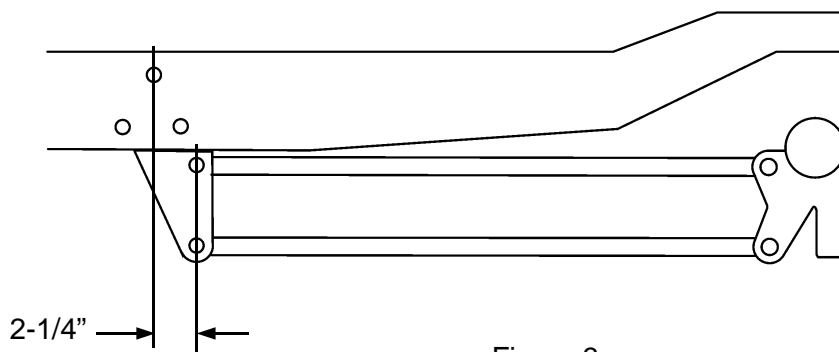

Figure 3
2. Install the Lower Frame Brackets onto the underside of the frame at the 2-1/4" dimension from the top running board bracket hole. Some trimming may be required to position the brackets vertical on a stock frame. Tack weld in place. See Figure 3. Note that this kit is designed for a fully boxed frame. Frame should be boxed at least 6" forward of the Lower Mounts and all the way to the rear.